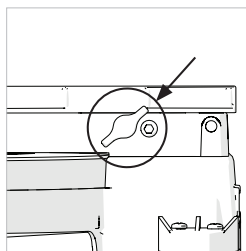

Fig. 14a
- Loosen the thumbscrew. (**Fig 14a**)
- Loosen the thumbscrew (**Fig 14a**).